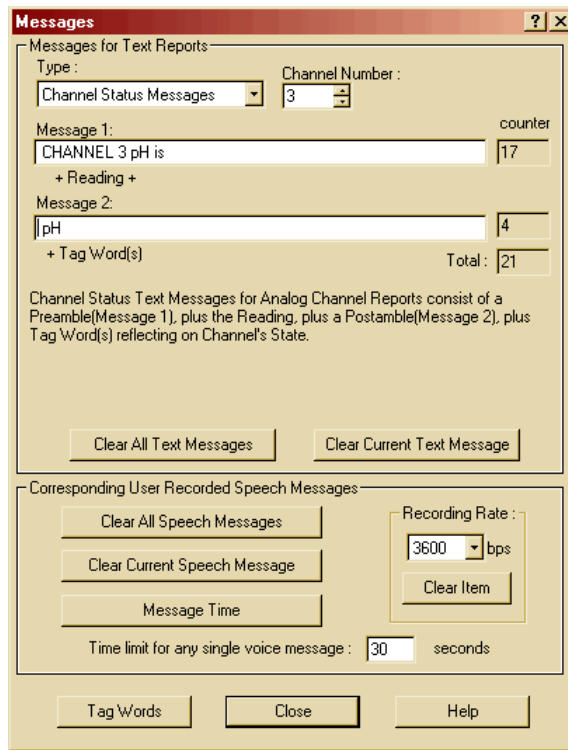

Figure 41: Messages, Channel 3
40. Change the **Channel Number** to **3** and edit it as shown in Figure 41.